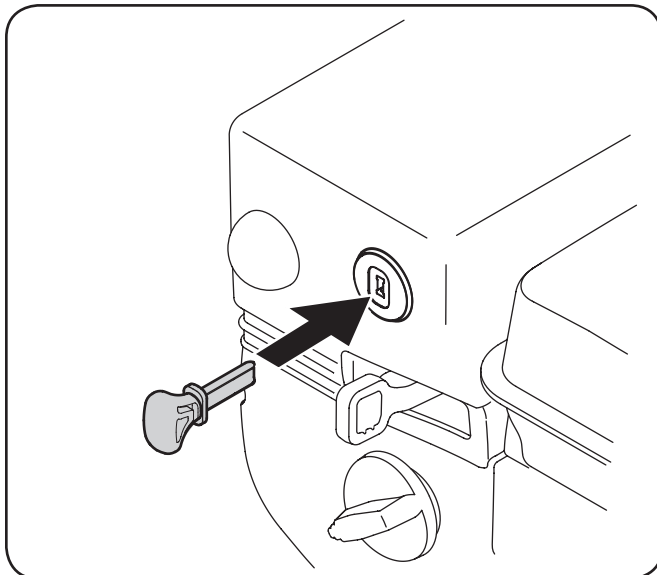

Figure 5-1
2. Insert ignition key fully into slot, Fig. 5-1. Make sure it snaps into place. DO NOT turn ignition key. The engine cannot start unless the key is inserted into ignition switch.